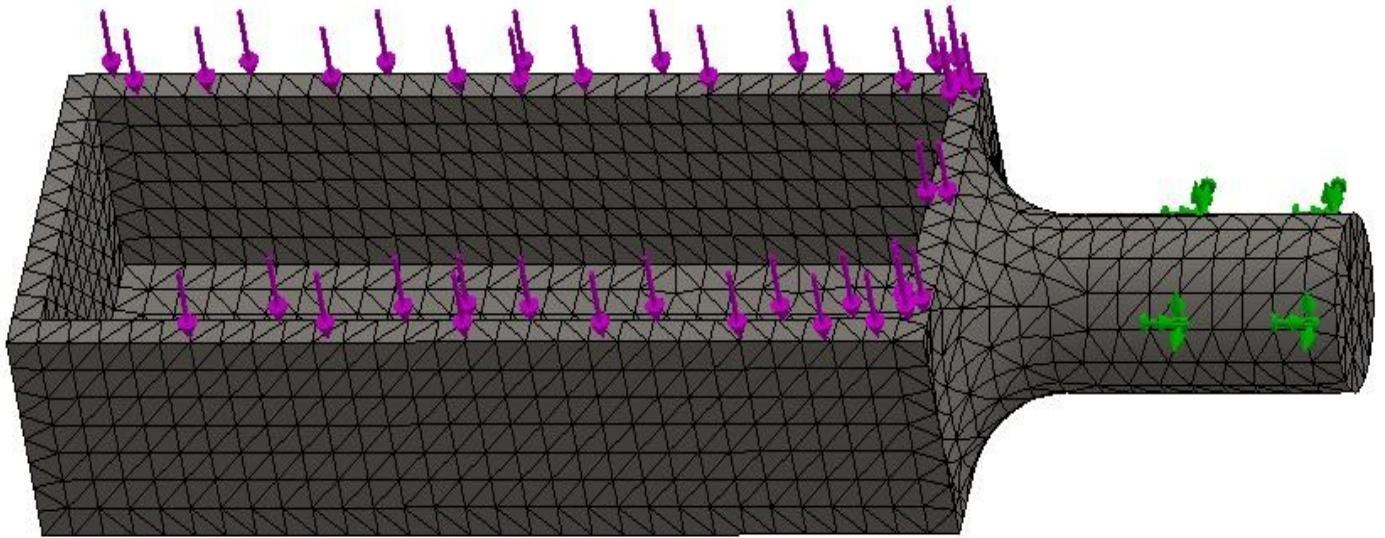

Figure-14. Meshed model
- Set the desired values in the parameter boxes in the rollout and click on the **OK** button from the **PropertyManager**. Note that the smaller value given in the boxes will make the analysis slower because of more calculations. The meshed model will be displayed as in Figure-14.